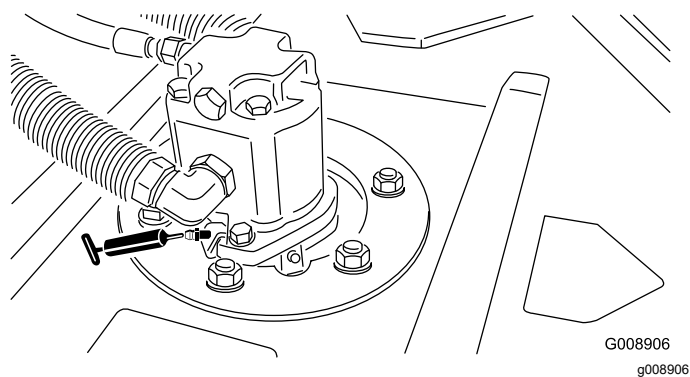

**Figure 43**
- Steering cylinder (Figure 43)